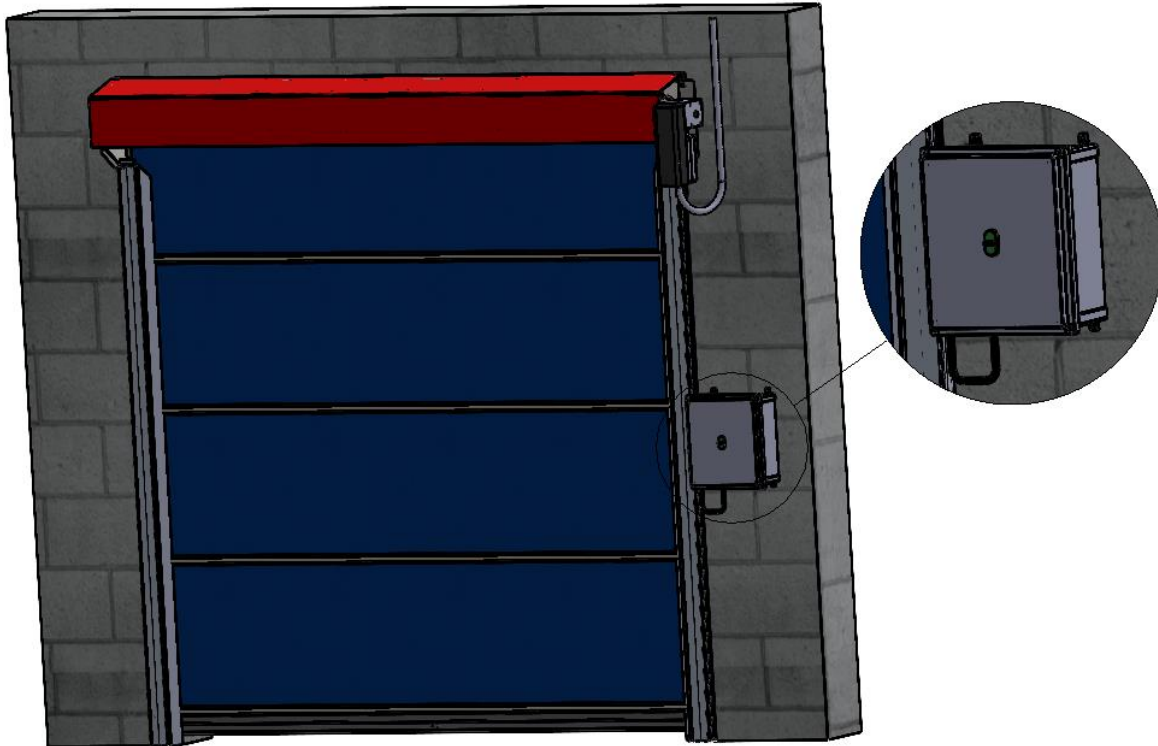

Figure 11 CONTROL BOX LOCATION
3. Have a qualified Electrician mount the Switch Control Box, route, and connect all wiring before applying power to the Door Assembly. (Figure 11 CONTROL BOX LOCATION)